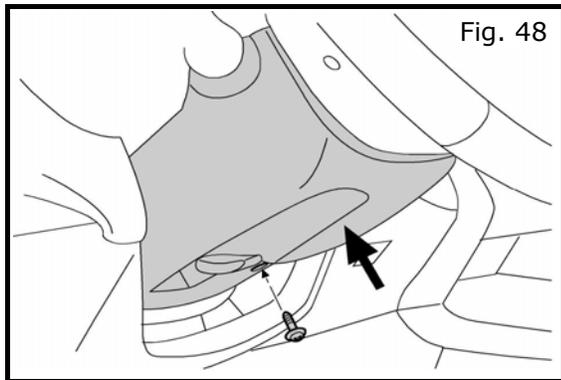

Fig. 48
- a) Install the lower steering finisher onto the steering column as shown in Fig. 48.
- b) Install one (1) phillips head screw as shown in Fig. 48.